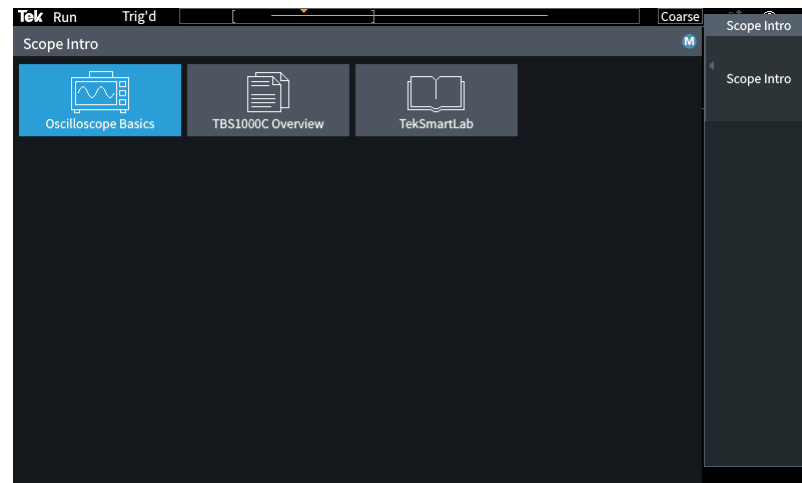

Figure 3. Selecting Oscilloscope Basics
2. Press **Scope Intro** bezel button (Figure 3)